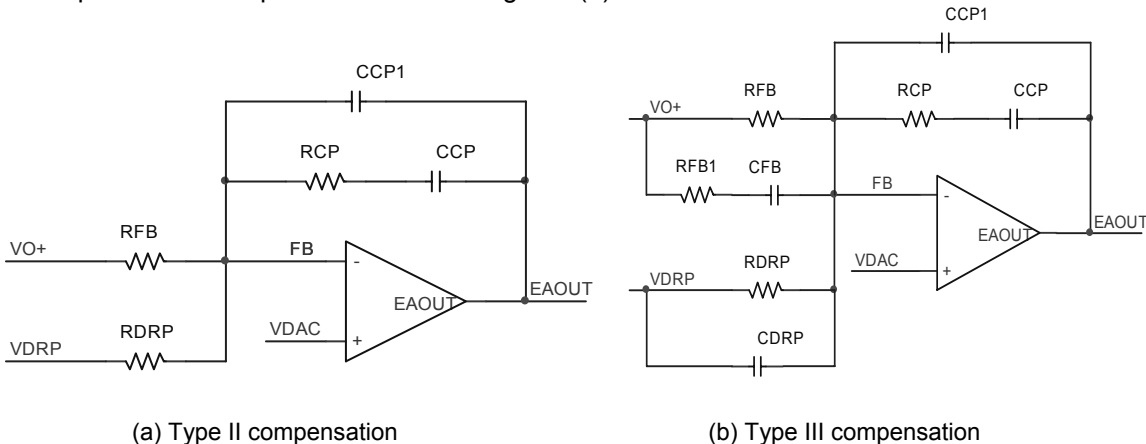

Figure 9. Voltage loop compensation network
Resistors R_{FB} and R_{DRP} are chosen according to Equations (15) and (16), and the selection of compensation types depends on the output capacitors used in the converter. For the applications using Electrolytic, Polymer or AL-Polymer capacitors and running at lower frequency, type II compensation shown in Figure 9(a) is usually enough. While for the applications using only ceramic capacitors and running at higher frequency, type III compensation shown in Figure 9(b) is preferred.
For applications where AVP is not required, the compensation is the same as for the regular voltage mode control. For converter using Polymer, AL-Polymer, and ceramic capacitors, which have much higher ESR zero frequency, type III compensation is required as shown in Figure 9(b) with R_{DRP} and C_{DRP} removed.